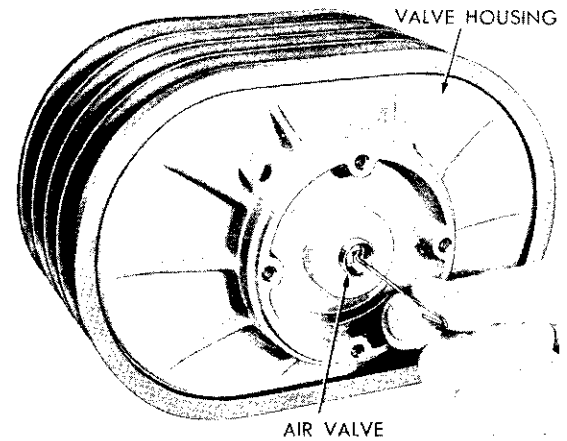

Fig. 29—Removing the Air Valve
(17) Remove the air filter and slide air valve out of the housing (Fig. 29). To remove the valve, it may be necessary to use a hook formed from a paper clip.